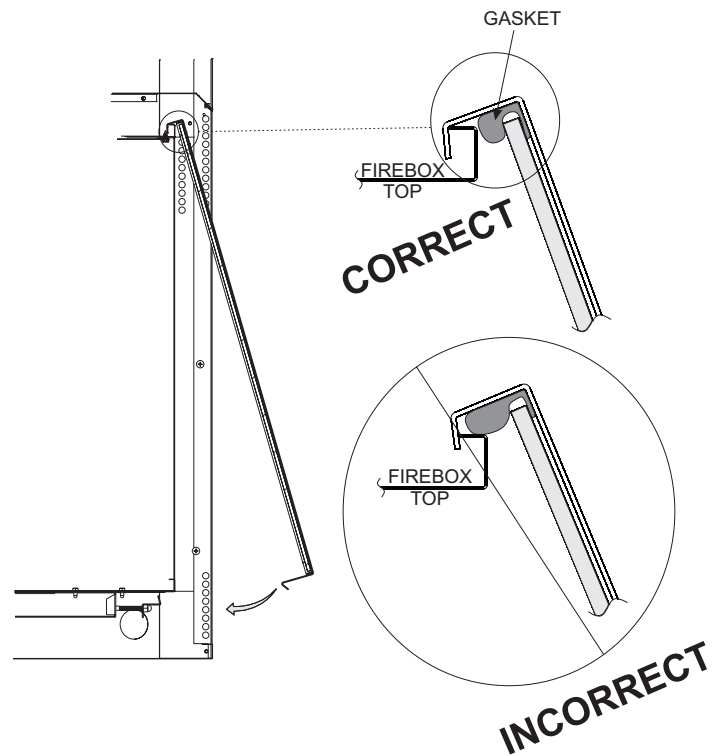

Figure 6
7. Reinstall glass front by hanging top of frame on top of the firebox, making sure gasket at top is positioned in front of firebox flange and not on top. **See Figure 6.**
1. When installing the Glass Door assembly, make sure that the door top flange is hooked over the firebox top flange as illustrated in the "Correct" view in Figure 6.
Important: Do not allow the gasket across the top of the door to roll up on top of the firebox flange as shown in "Incorrect" view in Figure 6.
- Check all latches or other door retention components for proper operation, tension, and relief mechanisms are free from obstructions. **See Figure 6.**